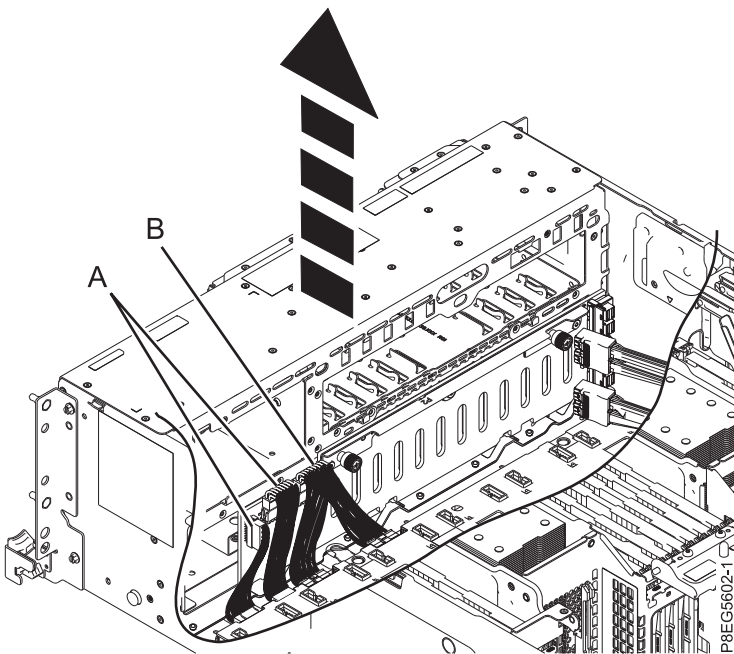

Figure 4. Disconnecting the power, signal, and control panel cables from the disk drive backplane
5. Label and disconnect the signal and control panel cables (A), and the power Y cable (B), from the disk drive backplane as shown in Figure 4.